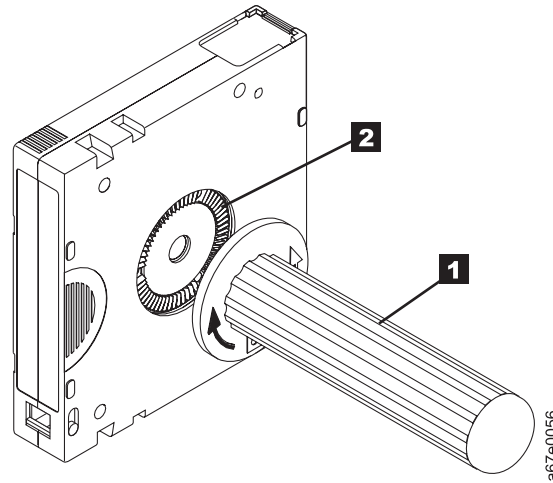

Figure 6-10. Rewinding the tape into the cartridge
5. To rewind the tape, insert the cartridge manual rewind tool (**1** in Figure 6-10) into the cartridge's hub (**2**) and turn it clockwise until the tape becomes taut.